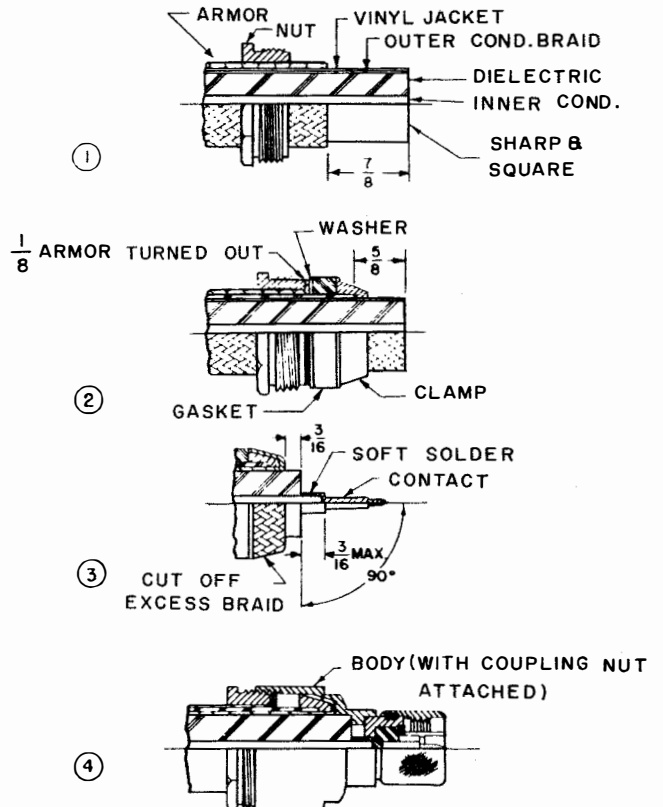

Figure 3-12. Assembly of Type UG-167A/U Plug Connector to Cable
d. ASSEMBLY OF TYPE UG-167A/U PLUG CONNECTOR TO CABLE. (See figure 3-12).
(1) Cut RG-18/U cable sharply and squarely to correct length and slide nut over end of cable. Starting at a point 7/8 inch from end of cable, carefully cut through armor braid and down to vinyl jacket. Do not cut jacket.
(2) Turn out radially 1/8 inch of armor braid against end of nut. Slide washer and gasket over end of cable against turned-out armor. At a point exactly 5/8 inch from end of cable, carefully cut sharply and squarely through vinyl jacket and down to outer connector braid. Do not nick this braid. Slide clamp over end of cable and against face of gasket.